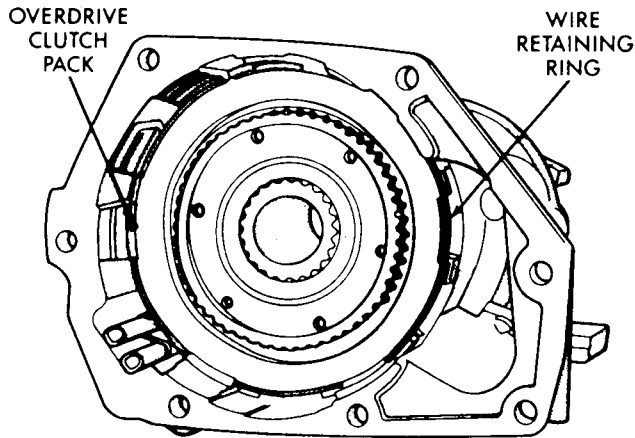

Fig. 3—Overdrive Unit Removed
(1) Remove overdrive clutch wire retaining ring, then pull out the alternating plates and discs. Note that the heaviest metal plate is placed in the front of the clutch pack. This is the pressure plate (Fig. 3).